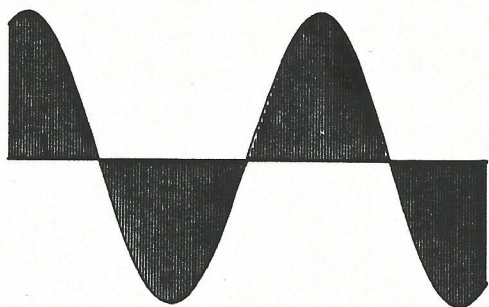

Figure 5
3. With an oscilloscope, monitor the demodulated composite signal at the appropriate wideband output of the Modulation Monitor. A short length of coax should connect the Mod Monitor directly to the vertical input of the 'scope. Do not use a 'scope probe to monitor this signal, and be sure that the oscilloscope is known to be in proper calibration. Phase shift in the 'scope input circuitry will result in improper adjustment! It's best to externally trigger the 'scope timebase directly from the audio signal which feeds the LEFT input of the 705 to assure a more stable display of the demodulated composite waveform which should resemble Figure 5.